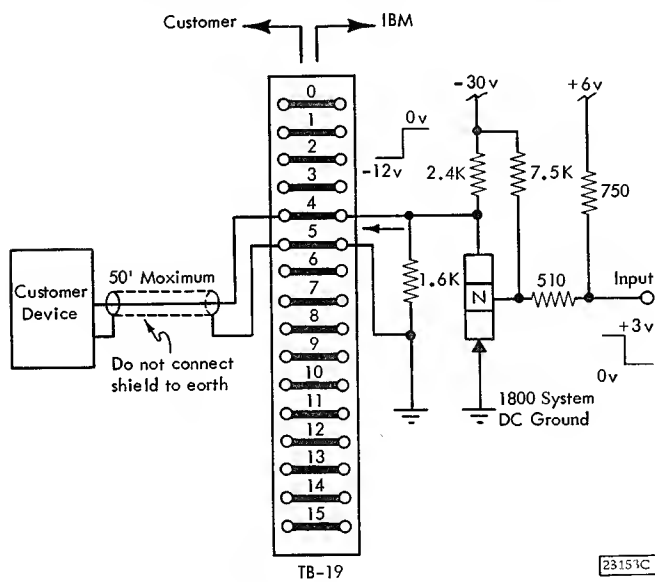

Figure 24. Digital Input "Ready" Signal Terminal and Circuit Schematic (simplified)
4. Circuit Description: Figure 24.